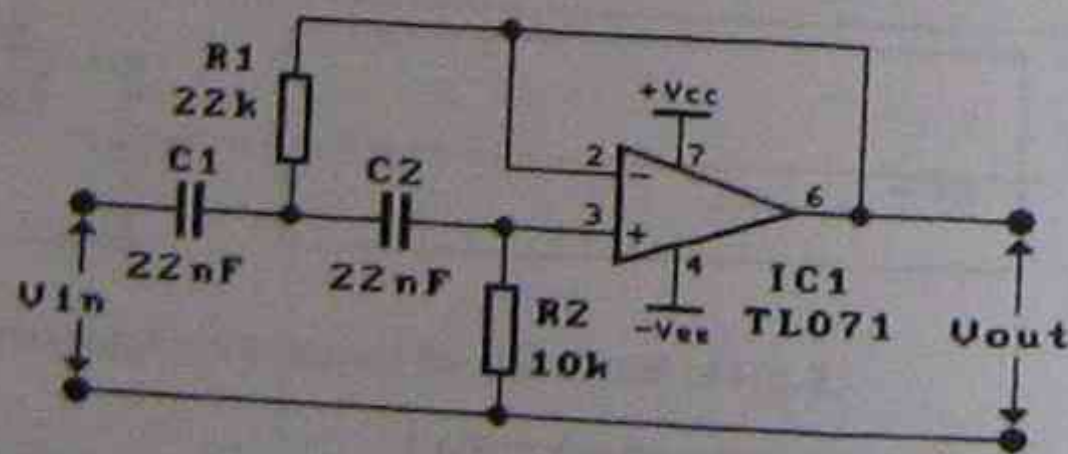

Fig.2: High pass filter
- For the circuit of Fig.2, calculate the cut-off frequency f_L .
- Construct the circuit of Fig.2.